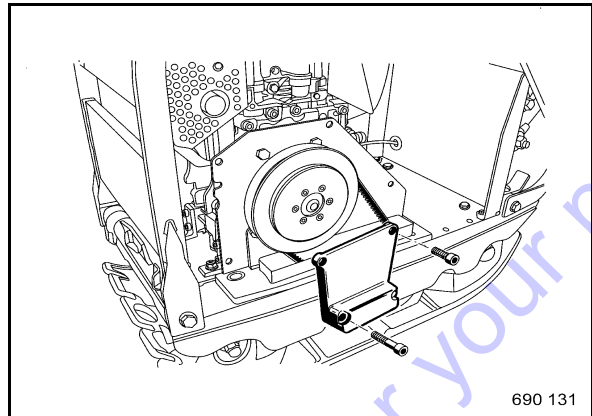

Fig. 53
- Unscrew the screws (Fig. 53) and take off the cover.